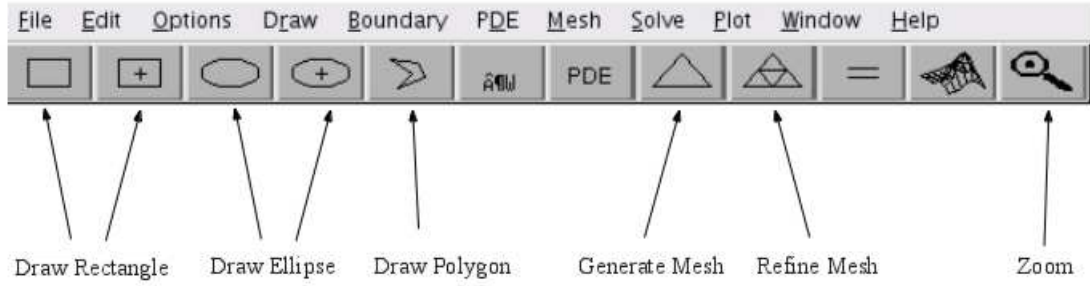
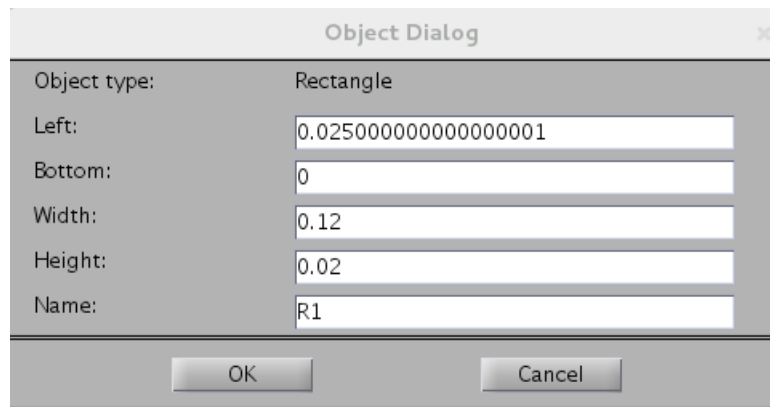

Figure 3: Basic tools for drawing in PDEtool.
Figure 4: Rectangle object dialog.
A step by step tutorial of how to use some of the basic features of PDEtool are provided here. Before starting to draw it is often convenient to activate grid and change the axis scales. This is done using <Options> menu. To build our geometry simple geometries are added one by one. The basic shapes used in PDEtool are rectangles, ellipses and polygons. Basic drawing tools can be found on the toolbar (see figure 3, note polygons are not necessary to create the geometry for the lab).
**Draw a rectangle:** Create a rectangle by using the rectangle tool (see figure 3) and simply hold left mouse button and move the mouse cursor to obtain the desired size. To adjust the size and position double click on the rectangle and a dialog will appear where coordinates and dimensions can be provided, see figure 4.
**Draw an ellipse:** Create a ellipse by using the draw ellipse tool (see figure 3) and simply hold left mouse button and move the mouse cursor to obtain the desired size. Double click to adjust position and size in similar fashion as for rectangles.
To generate a mesh simply press mesh tool when the geometry seen in boundary mode is satisfactory (see figure 3). To refine the mesh, i.e. create more elements, press refine mesh until enough elements are generated (remember that finer mesh means higher computational cost but better accuracy). Note that a high number of elements increases the computational time.